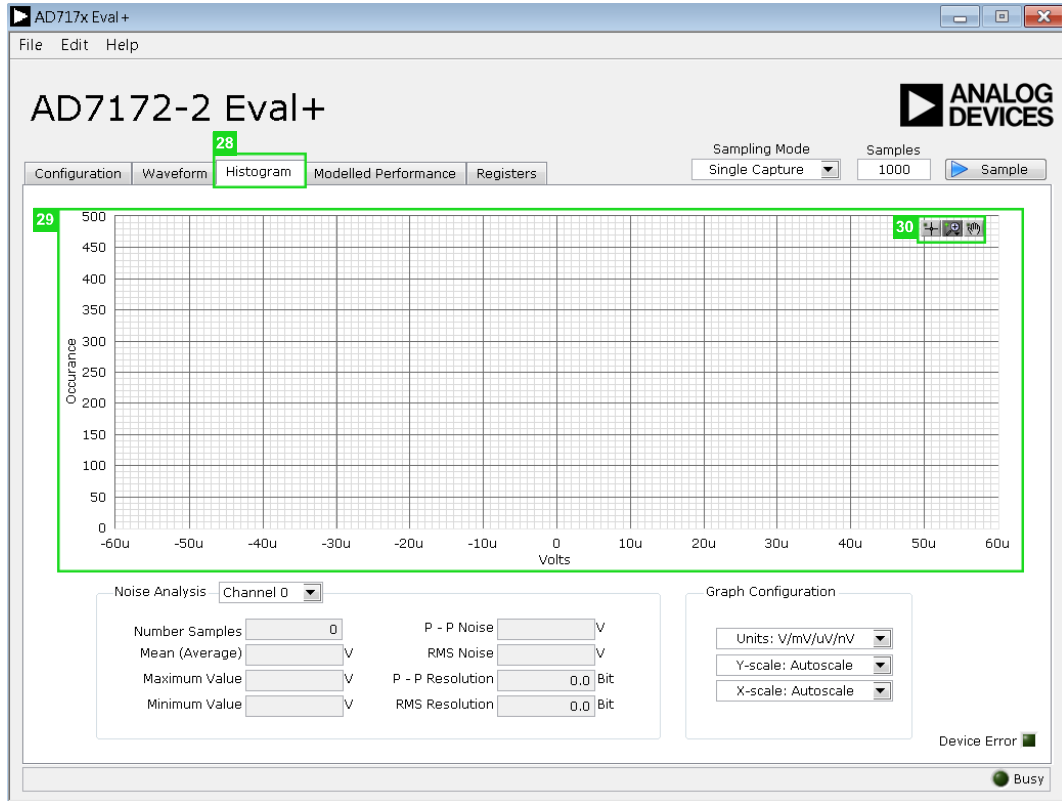

Figure 19. Histogram Tab of the AD7172-2 Evaluation Software
In the **Graph Configuration** pane (27), select the **Units:** **V/mV/uV/nV** dropdown menu to select the unit that the data displays in the graph. This control affects the waveform graph (22) and the histogram graph (see Figure 19). The axes controls can be switched between dynamic and fixed. When dynamic
Figure 19 shows the **Histogram** tab (28) of the AD717x Eval+ software.
The histogram graph (29) shows the number of times each sample of the ADC output occurs. The control toolbar (30) in the histogram graph allows you to zoom in on the data (see Figure 19). Click the x-axis and y-axis to change the scales on the graph.